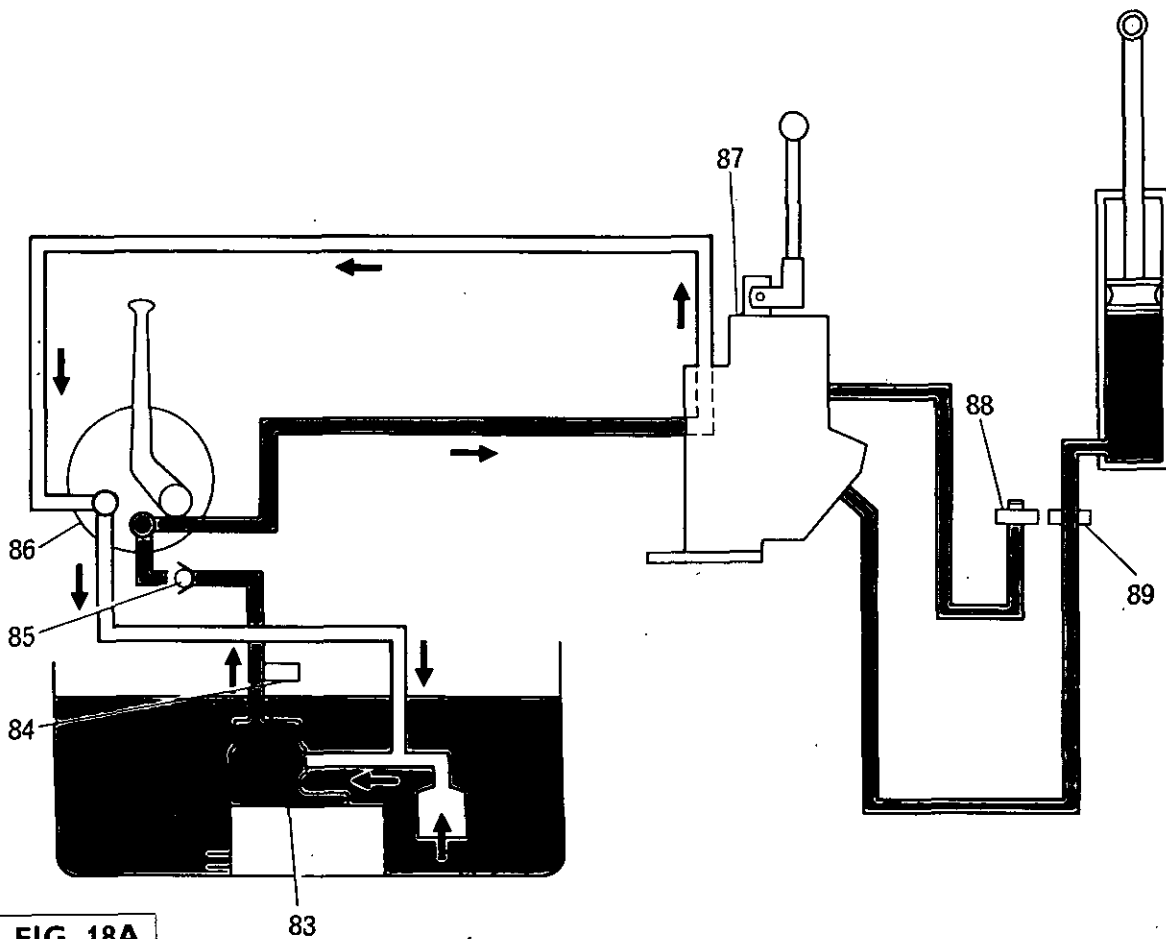

FIG. 18A
**Neutral (Lever Central)** Fig. 18A and 18B